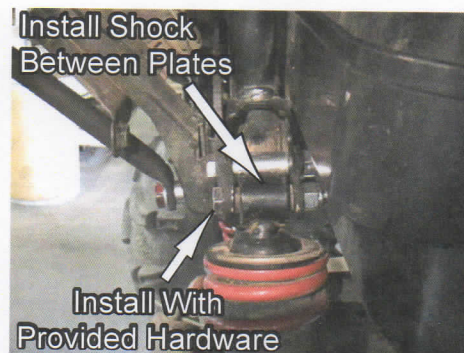

Fig.10
13. Once the Brackets are in place, next install the shock into the new Shock Mount Bracket plates. Do this by using the 3/8"-16 x 2-1/4" Lg Hex Head Bolt, Washers & Nylock Nut provided in your kit (items: "F", "H" & "I"). See Fig.10.